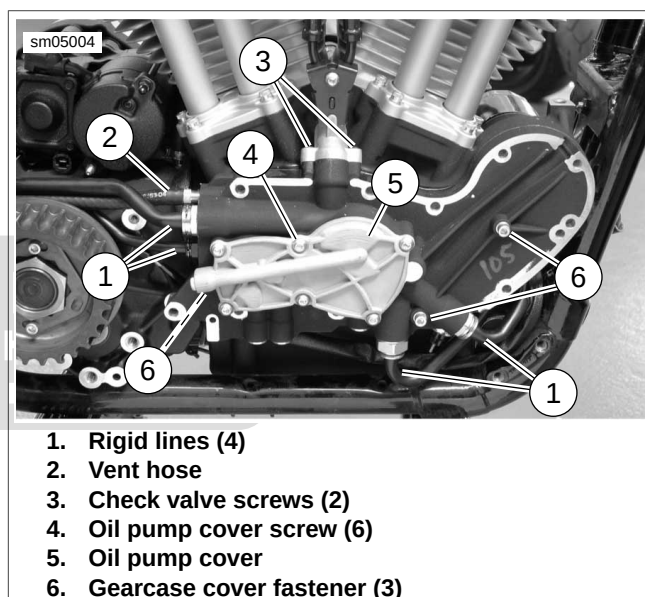

Figure 3-72. Gearcase Cover and Oil Pump: XR Models
6. See Figure 3-72. Remove rigid lines (1) and vent hose (2) from gearcase cover. See 3.14 PRECISION COOLING SYSTEM: XR MODELS, Oil Pump Lines. Mark lines and hoses for later installation. Discard hose clamps.
7. Remove two check valve housing screws (3).
8. Remove six screws (4) and remove oil pump cover (5). Discard o-rings.
9. Remove three fasteners (6). Loosely install oil pump cover to prevent rotors from falling out unexpectedly.